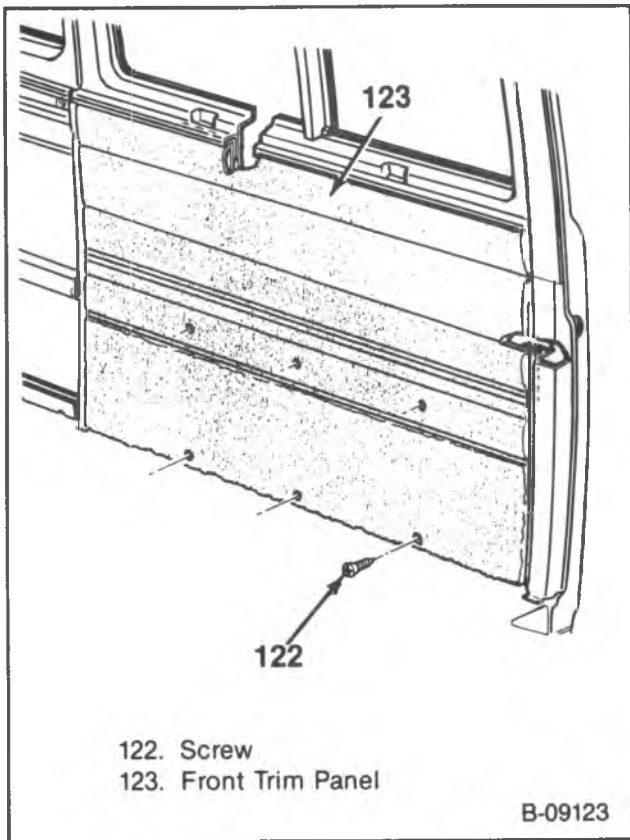

Figure 40 — Front Trim Panel
12. Body side front trim panel screws and the trim panel (figure 40).
3. Body side front trim panel and screws (figure 40).